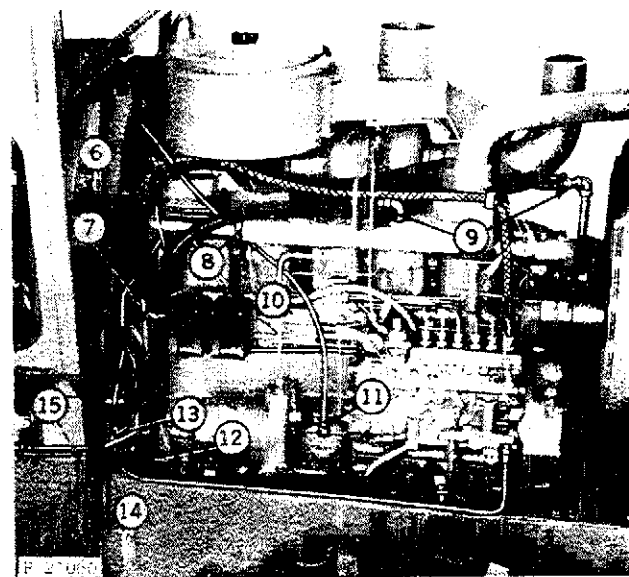

Fig. 6-Right-Hand Removal Steps
6. Disconnect wiring harness from connectors and clamp (Fig. 6).
7. Disconnect and remove fuel return pipe from engine and fuel tank, (Fig. 6 and 7). Disconnect and remove crankcase vent hose and pipe.